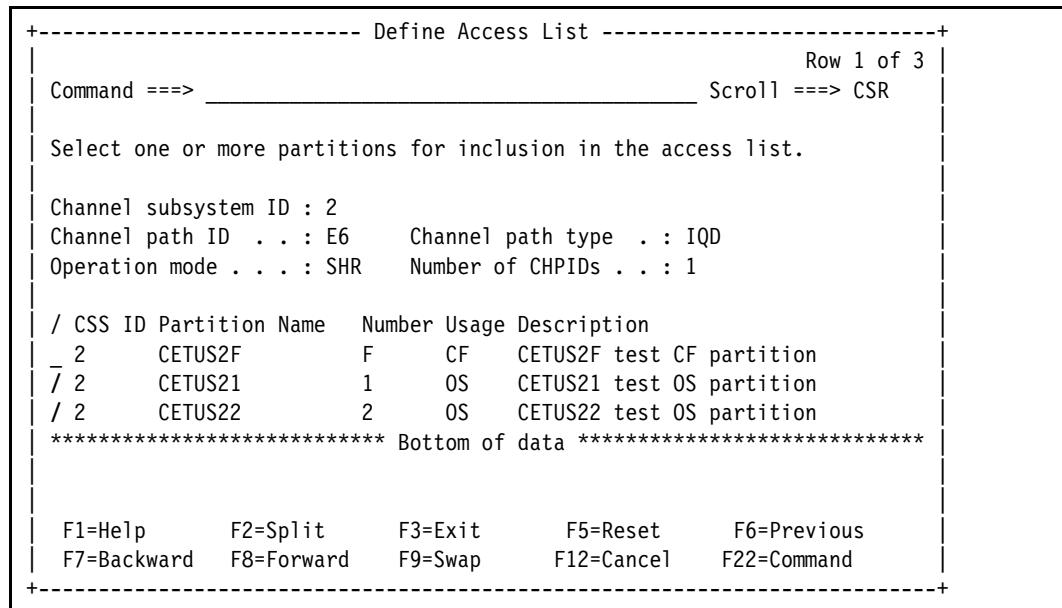

Figure 13-59 Processors: Define Access List, IQD
- Type forward slash ‘/’ next to the desired partitions (Figure 13-59), and press **Enter**.